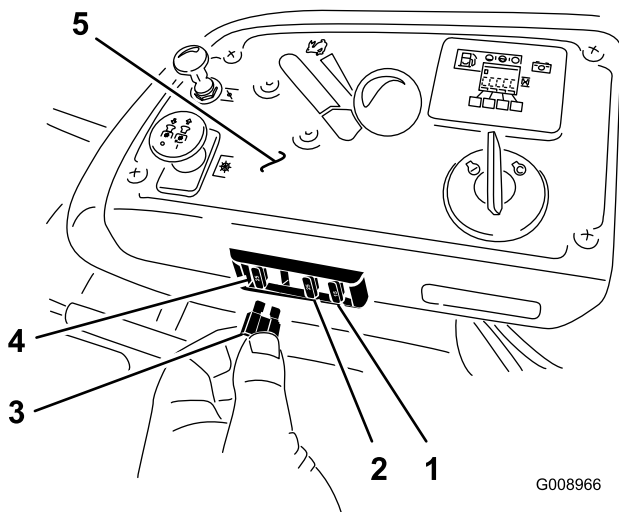

Figure 63
1. The fuses are located on right hand console next to the seat (Figure 63).
3. Install a new fuse (Figure 63).